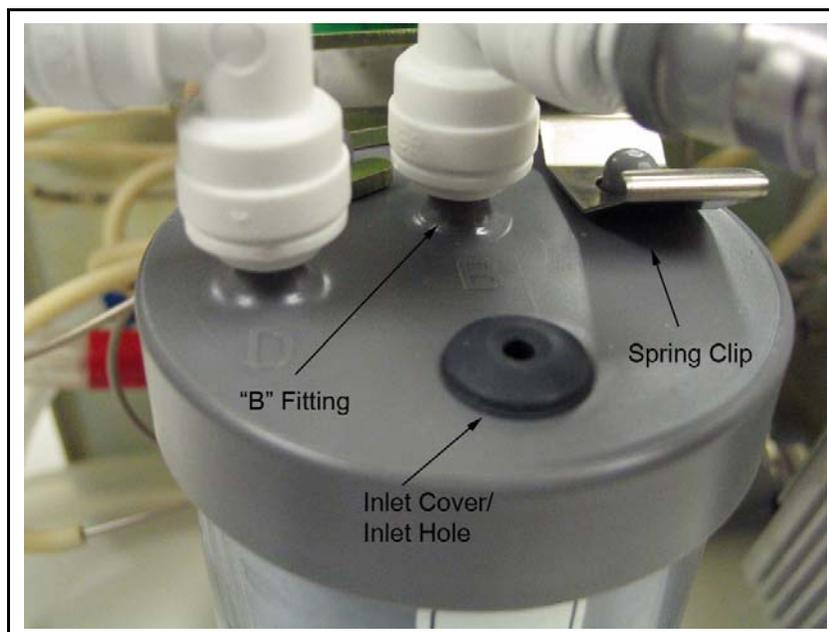

Figure 34: Filling the DI Water Cartridge
6. Remove the rubber inlet cover, located on the top of the DI water cartridge (see Figure 34).